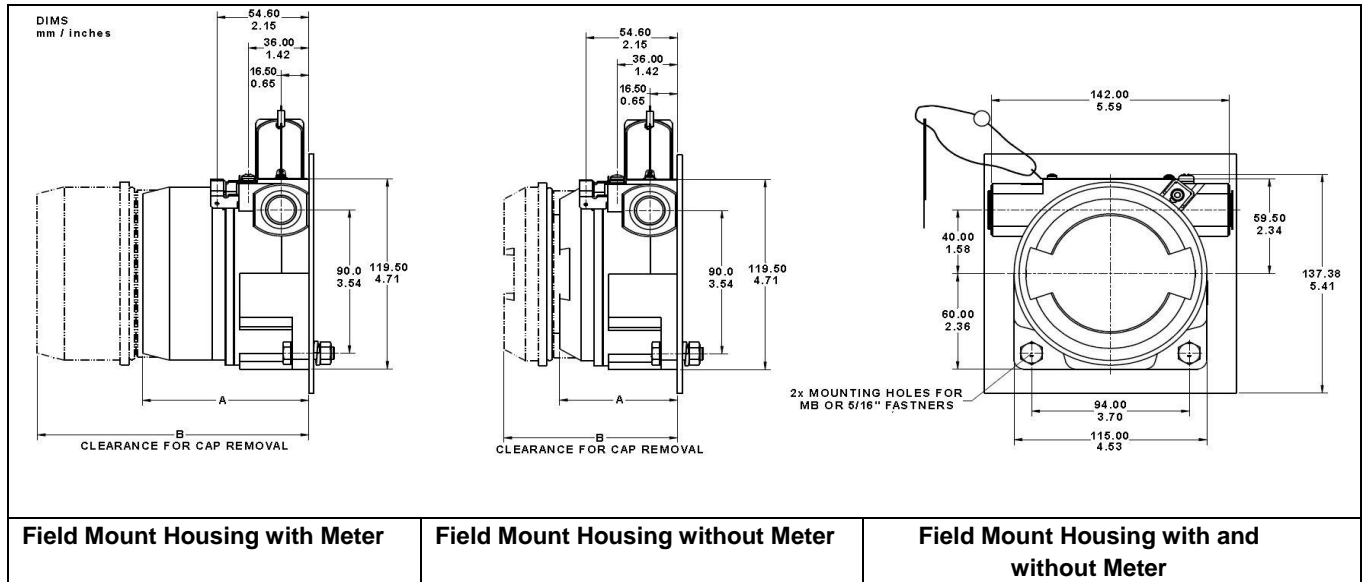
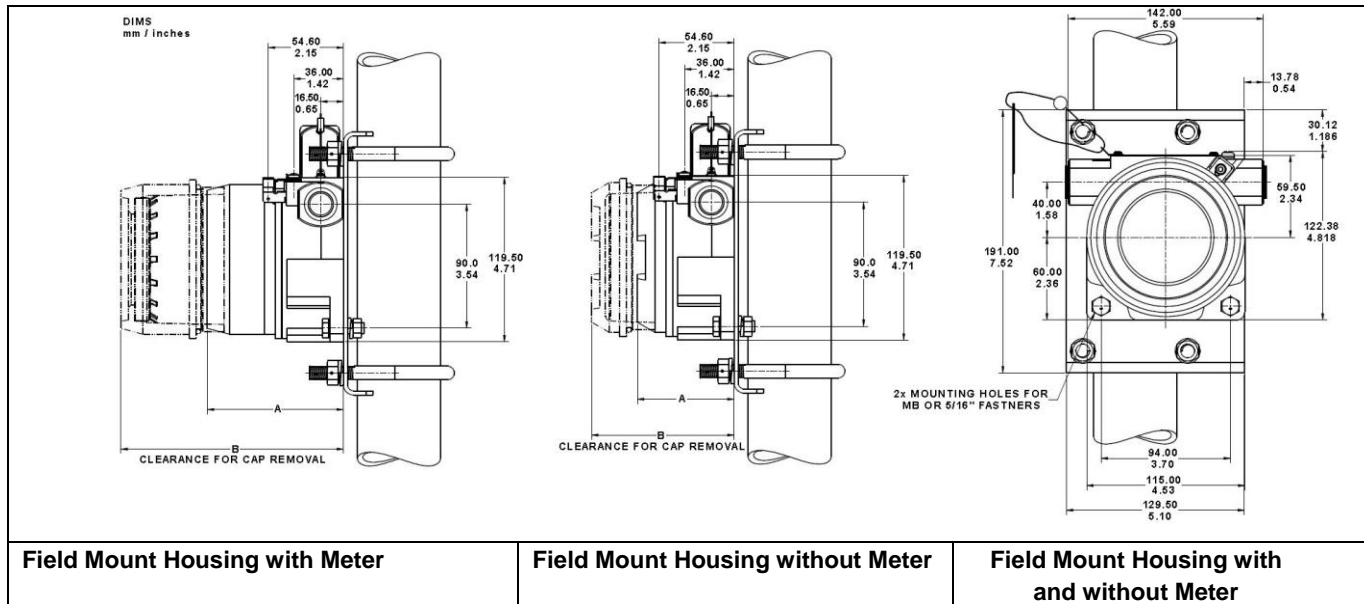

Figure 4: Wall Mounting Dimensions
Figure 5: Pipe Mounting Dimensions
**Table 1: Dimension table for use with Figure 4 and Figure 5**